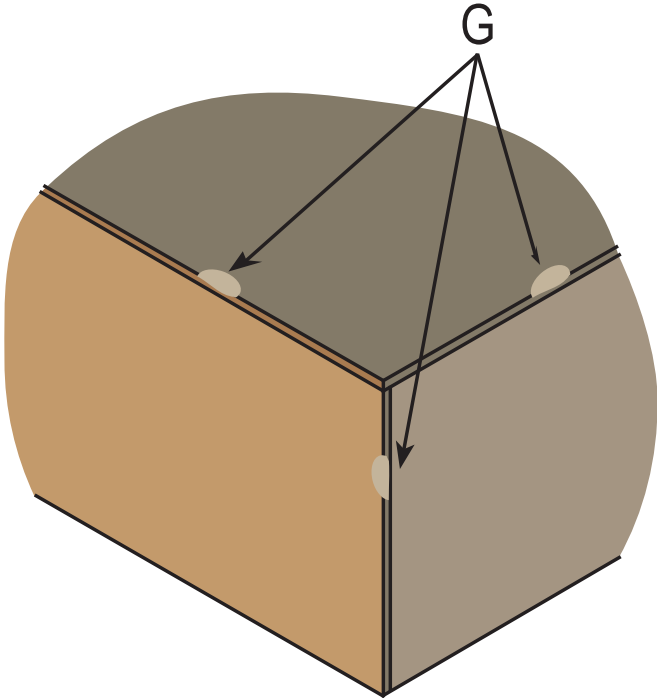

Figure 24 - Chip-Out
c) Chip-out shall be inconspicuous (See Figure 24).